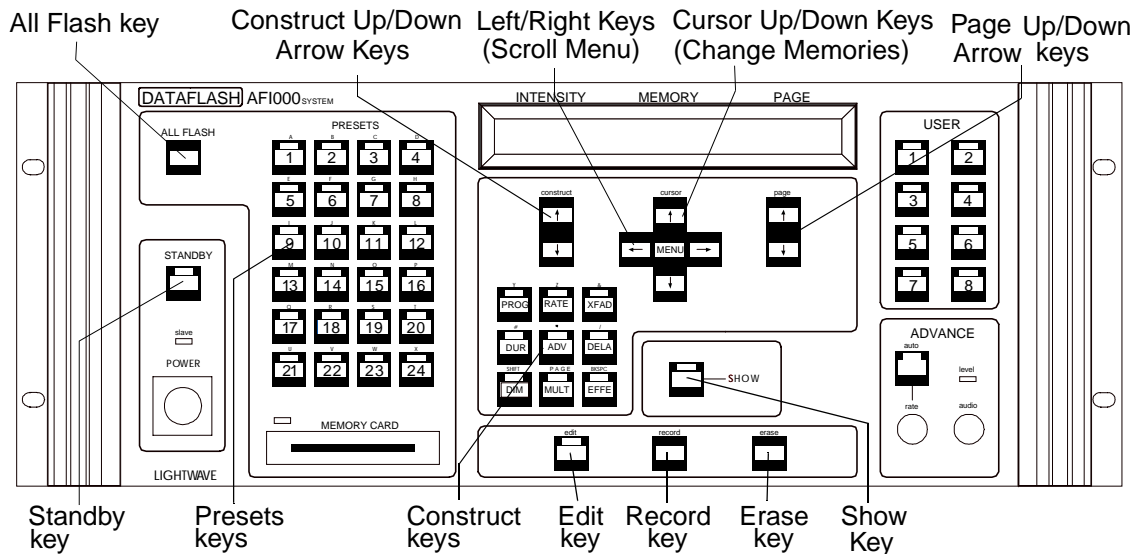

Figure 11. AF1000 Controller Front Panel
1. Press the EDIT key. The EDIT key LED flashes. Ensure that the Standby lamp is out. You can program in Standby, it's just hard to see what you're doing. Refer to Figure 11. (Note to experienced LCD users: Do not press one of the 24 Presets keys)